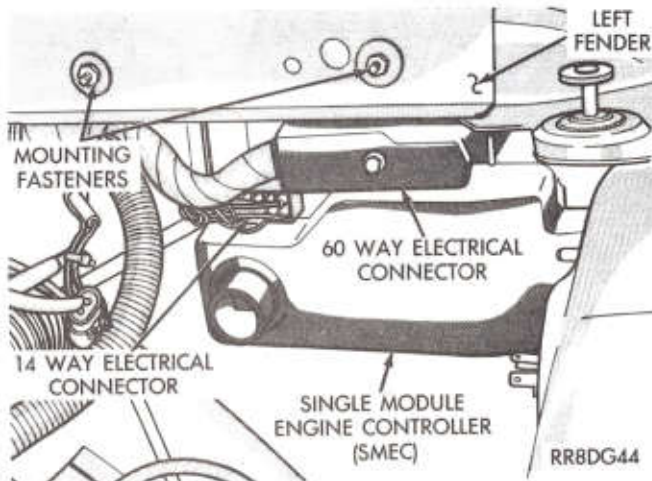

Fig. 2—Single Module Engine Controller (SMEC) Electrical Connectors
(1) Verify that the 60-way connector is fully inserted into the socket on the Single Module Engine Controller (SMEC) (Fig. 2).
(2) Verify that the 14-way connector is fully inserted into the socket on the Single Module Engine Controller (SMEC) (Fig. 2).